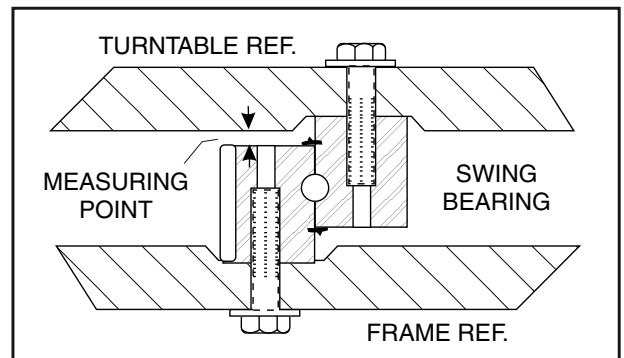

Figure 3-5. Swing Bearing Tolerance Measuring Point
1. From the underside of the machine, at rear center, with the boom fully elevated and fully retracted, as shown in A, Figure 3-6., Swing Bearing Tolerance Boom Placement, using a magnetic base dial indicator, measure and record the distance between the swing bearing and turntable. (See Figure 3-5., Swing Bearing Tolerance Measuring Point.)
2. At the same point, with the boom at horizontal and fully extended, and the tower boom fully elevated as shown in (Figure 3-6., Swing Bearing Tolerance Boom Placement) B, using a magnetic base dial indicator, measure and record the distance between the swing bearing and turntable. (See Figure 3-5., Swing Bearing Tolerance Measuring Point.)